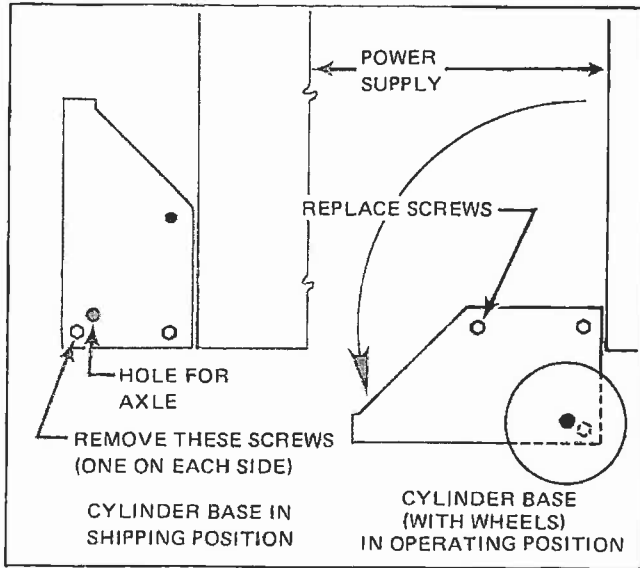

Fig. 3 - Side Views of Cylinder Base
4. Swing the cylinder base down 90°, and re-assemble the two screws and lockwashers (removed in Step 3) to hold the base in operating position. Tighten the other two screws. (See Fig. 3.)